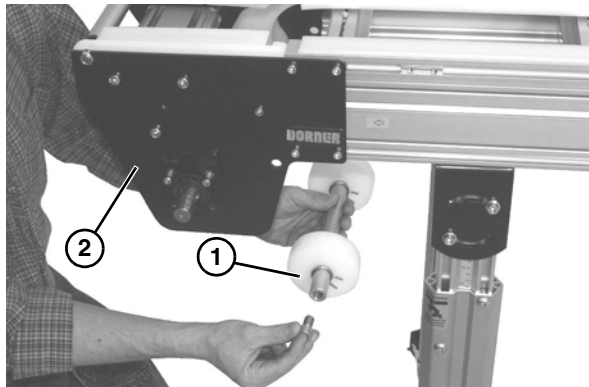

Figure 40
3. Lower roller assembly (**Figure 40, item 1**) from drive tail assembly (**Figure 40, item 2**).